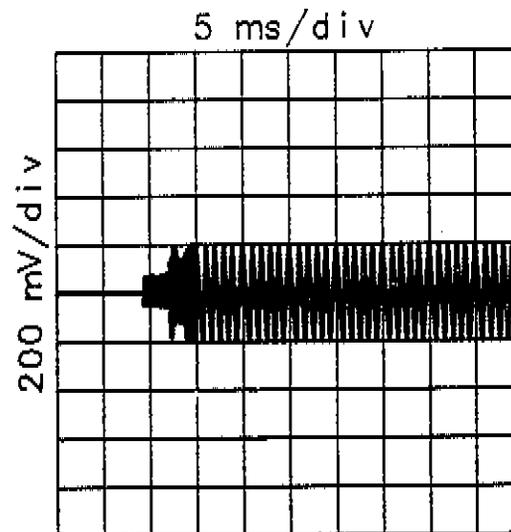

Figure 4-7. Frequency Switching Waveform
9. Using the **FREQ INCREMENT** keys, reset the Signal Generator's frequency to the start frequency (3 000.000 MHz). Press the digitizer (**STORE M1**) key on the oscilloscope and then use the appropriate **FREQ INCREMENT** key to step the Signal Generator to the stop frequency (2 000.000 MHz). The oscilloscope should digitize the switching waveform as the frequency changes. The waveform should be similar to the waveform shown in Figure 4-7.